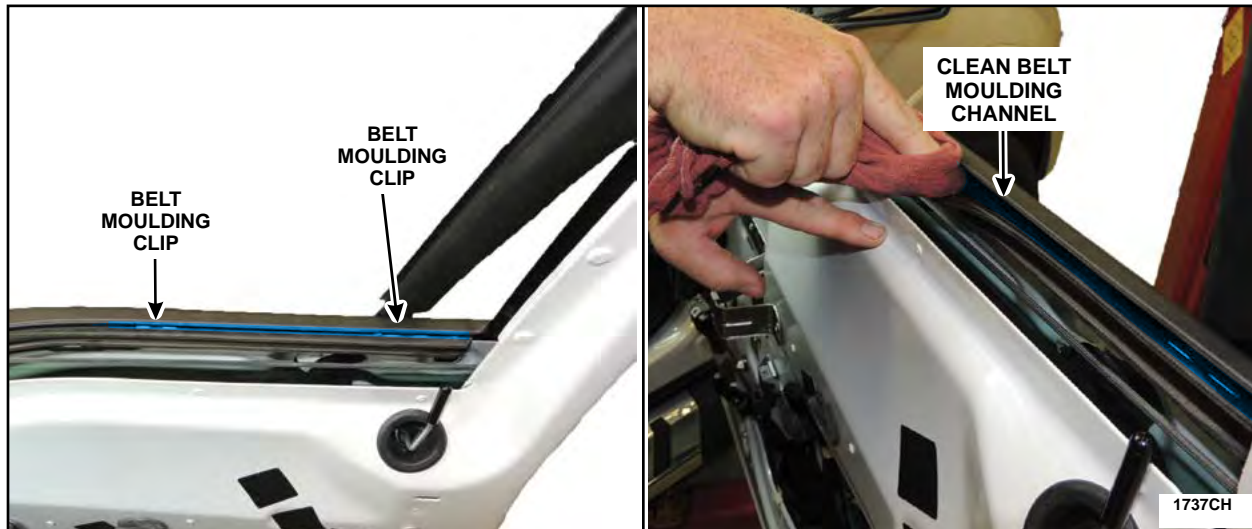
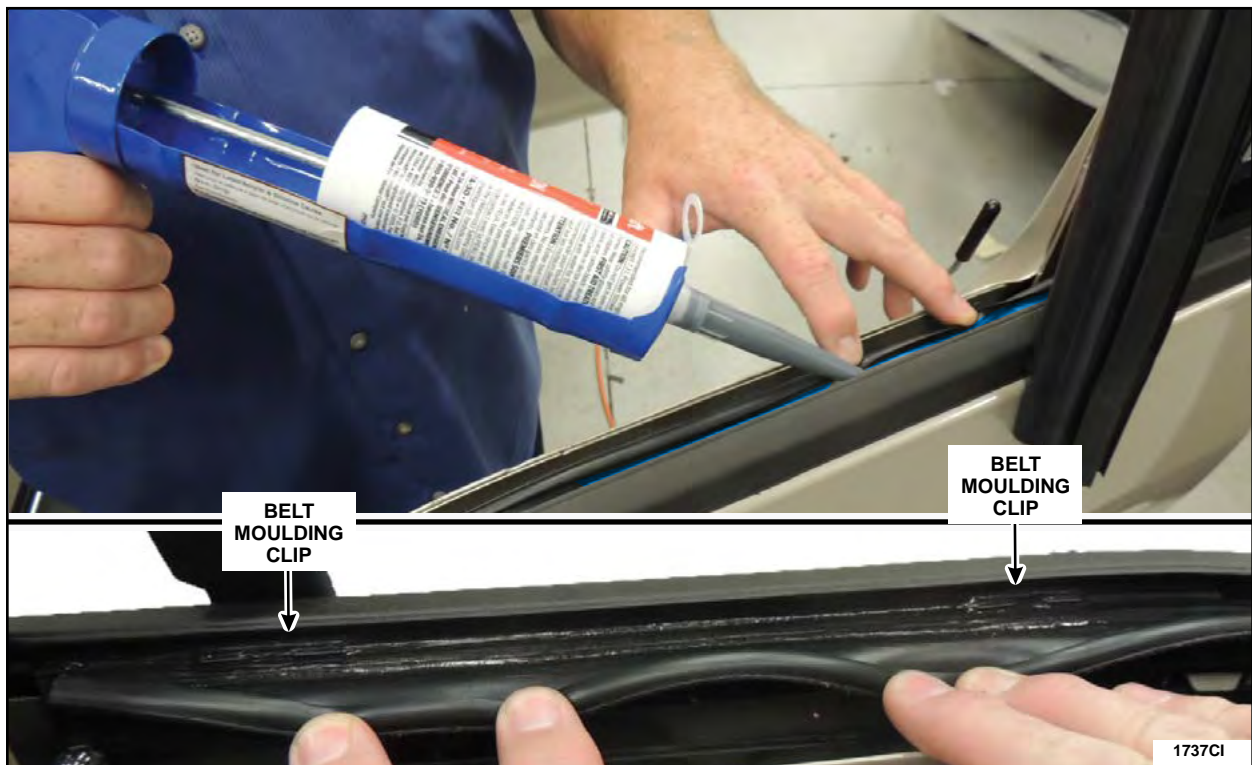

FIGURE 18
FIGURE 19
See Figure 18.
7. Apply a small bead of Motorcraft® TA-30 Silicone sealant onto the highlighted area of the outer belt moulding, ensuring the two belt moulding clips shown in Figures 18 and 19 are completely covered. Using your finger, smooth out the sealer to establish an even surface. See Figure 19.